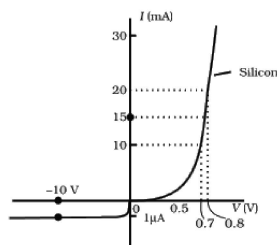

Fig 14.17
- Example 14.4:** The V-I characteristic of a silicon diode is shown in the Fig. 14.17. Calculate the resistance of the diode at (a)  $I_D = 15 \text{ mA}$  and (b)  $V_D = -10 \text{ V}$ .